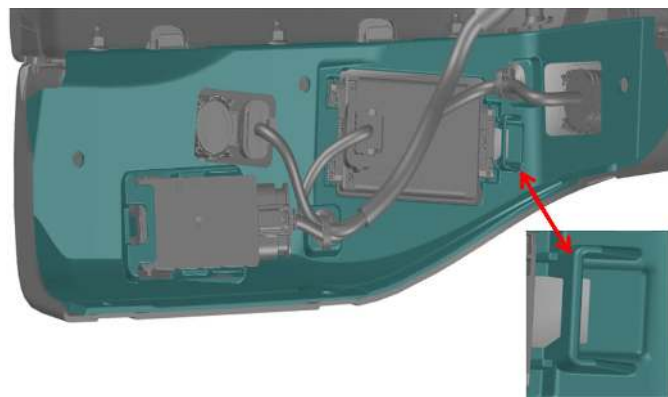

Fig. 8
9. Install a **NEW** MRR bracket Fig. 8.